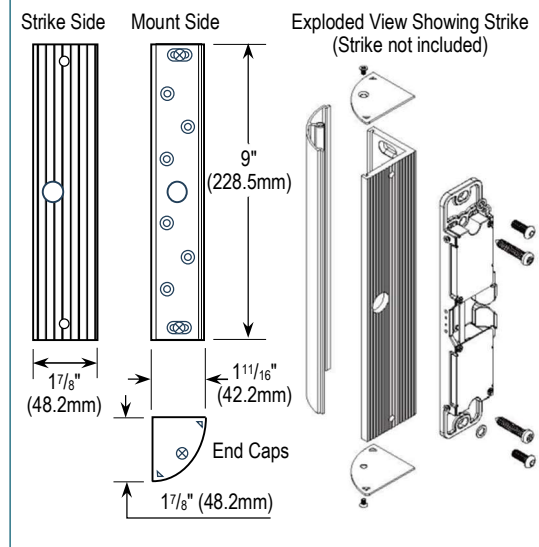
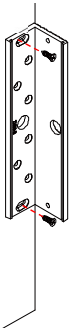

Fig. 1
Fig. 2
2. Disassemble the bracket and align the L-shaped bracket with the edge of the door jamb (or other mounting location). Use the 2 bracket mounting screws to attach it through the oblong holes on each end (Fig. 1). The holes are designed to allow the bracket up to  $\frac{5}{16}$ " (8mm) of horizontal adjustment (Fig. 2).